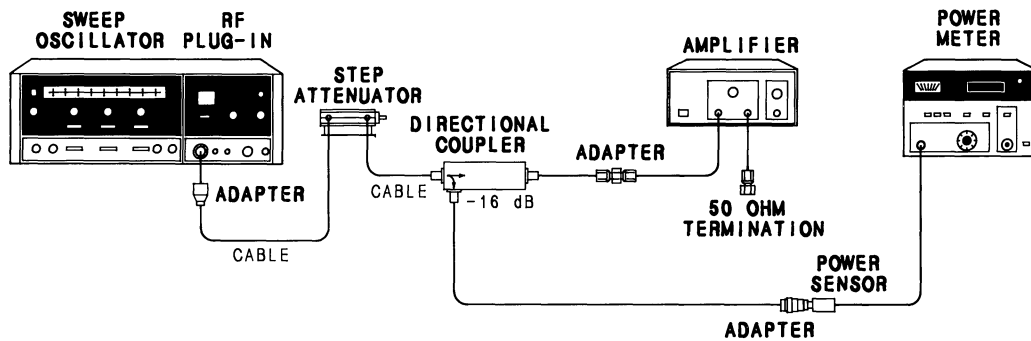

Figure 4-3. Minimum Input Power for ALC Operation Test Setup
2. Connect the equipment as shown in Figure 4-3.